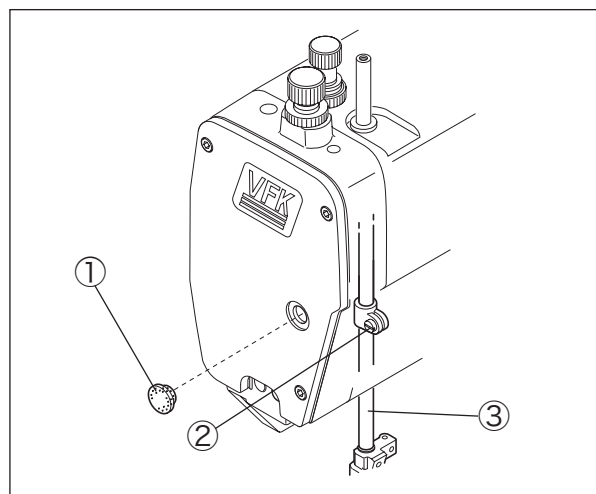

Fig. 6-19
- (4) Check the needle drops in the center of the needle hole on the stitch plate, then tighten the screw ②.(Fig.6-19)
- (5) Reset the seal plug ①.